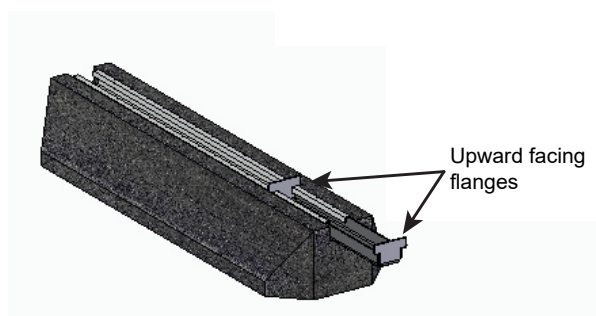

Figure 3-5: Volumiser mounting brackets
4. Ensure that the base of the External Volumiser is correctly located between the two upward facing flanges on both of the mounting brackets. Refer to Figure 3-5.